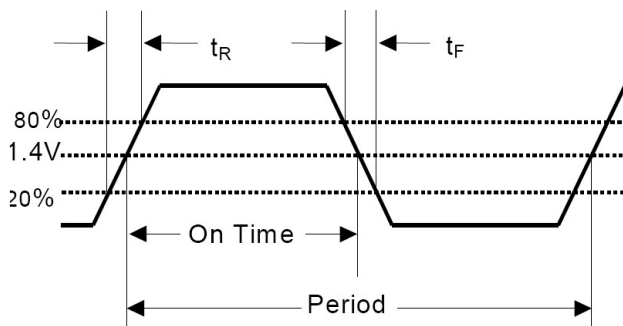
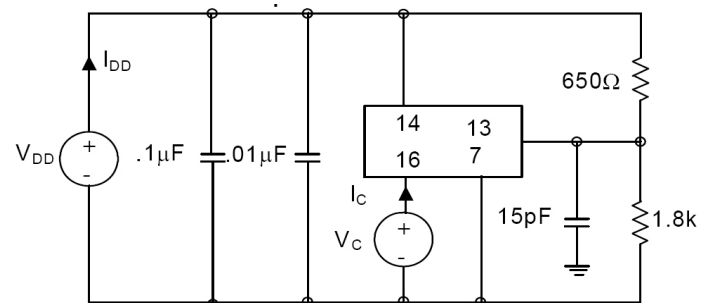

Figure 2. Output Waveform
Figure 3. OUT1, OUT2, RCLK, RDATA Test Conditions (25  $\pm$  5°C)
2. Figure 2 defines these parameters. Figure 3 illustrates the equivalent five gate TTL load and operating conditions under which these parameters are tested and specified. Loads greater than 15 pF will adversely effect rise/fall time as well as symmetry.